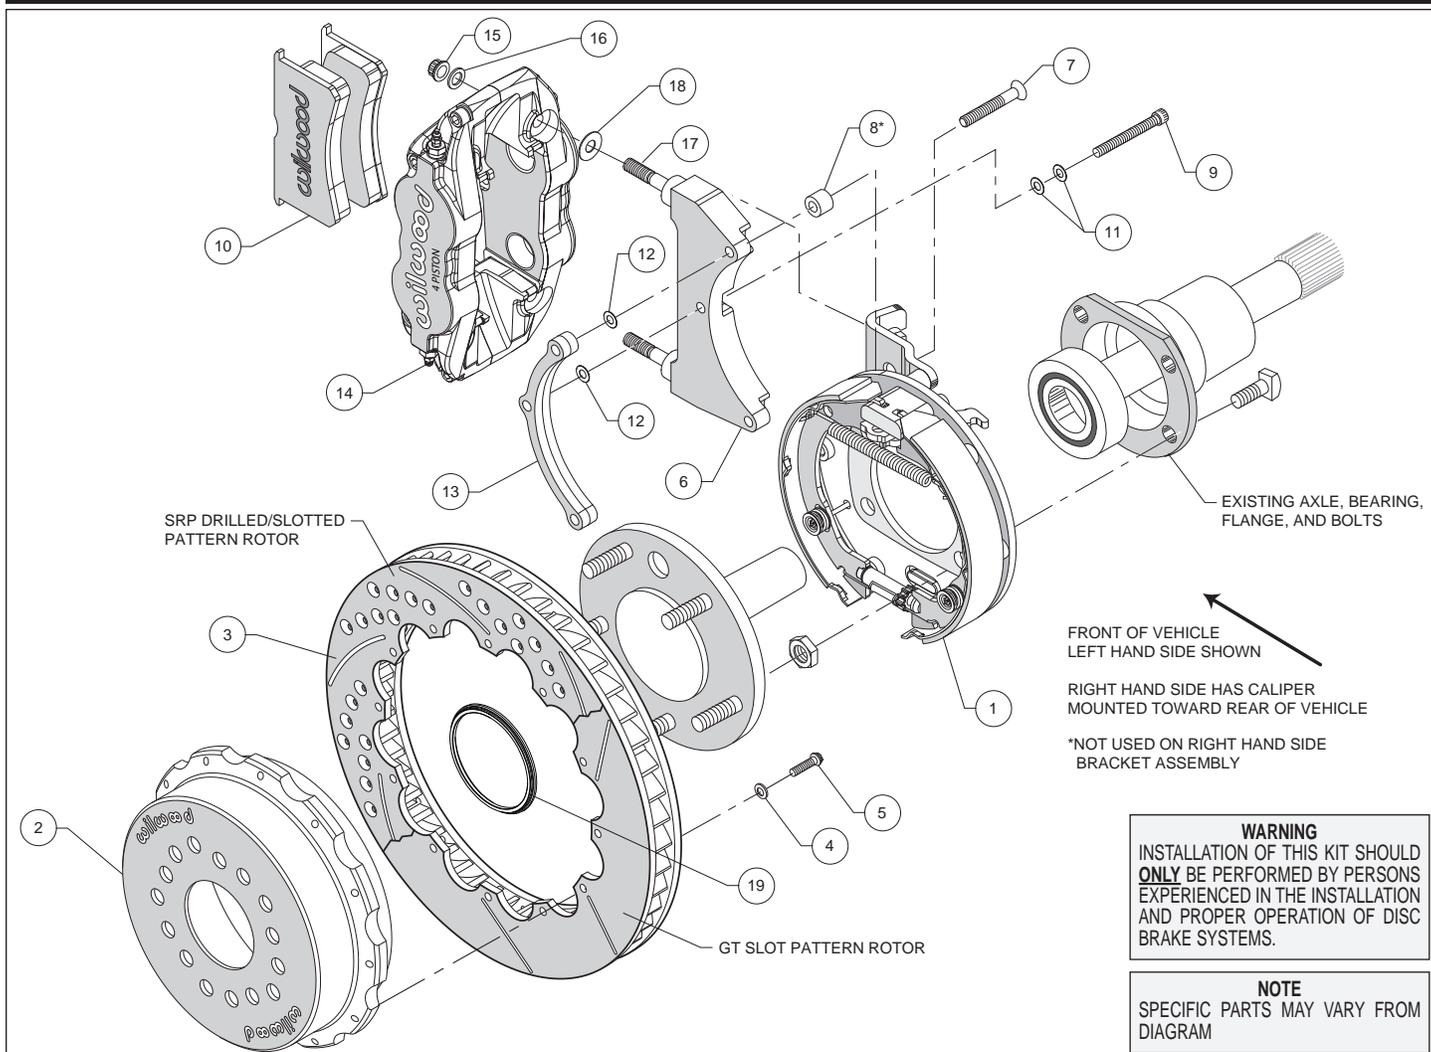
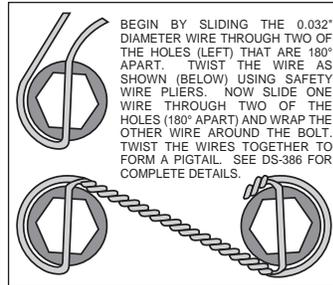

Figure 1. Typical Installation Configuration
Figure 4. Safety Wire Diagram
Assembly Instructions (numbers in parenthesis refer to the parts list and Figure 1 on the preceding pages): **CAUTION:** All mounting bolts must fully engage threaded holes.
- Orient the bracket assembly (1), as shown in Figure 1, and mount to the axle housing flange using the Original Equipment Manufacturer (OEM) bolts and nuts, Figure 1. Ensure that the bracket assembly backing plate fits flush against the axle housing flange. Apply red *Loctite*® 271 to the OEM bolt threads and torque to OEM specifications.
- **NOTE:** Please reference the caution statement at the beginning of the assembly instructions. The caliper mounting bracket assembly (6) should initially be installed with clean, dry threads on the mounting bolts. **NOTE:** The caliper bracket must tighten squarely against the back side of the bracket kit assembly (1). The ends of the bolts should not exceed inside face of insert. Later, after the caliper alignment has been checked, the mount bolts will be secured using red *Loctite*® 271.
Left Hand Side - Orient the left hand bracket (6) and 3-hole spacer (13) as shown in Figure 1 and Photo 1, and install using bolts (9) and two washers (11) in the middle and lower hole locations, Figure 1. Use bolt (7) in the upper hole with spacer (8) placed between the bracket (6) and the cable stop bracket, Photo 1. Initially place one .015" shim washer (12) on each of the three bolts between the bracket and 3-hole spacer, Figure 1. Temporarily tighten the mounting bolts.
- Orient the rotor (3) and the hat (2) as shown in Figure 1 and Photo 3. Attach rotor to hat using bolts (5) and washers (4). Using an alternating sequence, apply red *Loctite*® 271 to the threads, and torque to 155 **in-lbs**. For an added measure of security, the bolts may be safety wired using standard 0.032 inch diameter stainless steel safety wire as shown in Figure 4. Please refer to Wilwood's data sheet DS-386 (available at www.wilwood.com/Pdf/DataSheets/ds386.pdf) for complete safety wire installation instructions.
- Slide the rotor registration adapter (19) onto the axle register on the axle flange with the smaller O.D. facing toward the rotor/hat (2/3), Photo 4. Align the correct hole pattern in the hat with the stud pattern on the axle flange and slide into place, Figure 1 and Photo 5. **NOTE:** The rotor/hat must fit flush against the axle flange or excessive rotor run out may result. Install three lug nuts (finger tight) to keep the rotor/hat assembly in place while continuing with the installation. **NOTE:** Some OEM and after market axles come with stud sizes larger than 0.50" diameter. Verify stud size and have a qualified machine shop drill the bolt circle of the hat/rotor to the correct stud size, if necessary.
- Lubricate the caliper mounting studs (17) with lightweight oil. Initially place one .035" thick shim (18) on each stud as shown in Figure 1 and Photo 6. Mount the caliper (14) onto the bracket (6) using lock nuts (15) and washers (16), Figure 1. Temporarily tighten the lock nuts and view the rotor through the top opening of the caliper. The rotor should be centered in the caliper, Photo 7. If not, adjust by adding or subtracting shims (12) between the bracket (6) and the 3-hole spacer (13). Always use the same amount of shims on each of the three mounting bolts. Once the caliper alignment is correct, remove the bracket mounting bolts (7 and 9) one at a time, apply red *Loctite*® 271 to the threads, and torque to 180 **in-lb**.